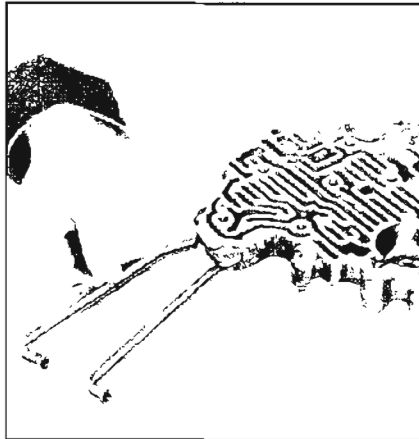

Figure 5-513
3. Remove the governor pipes from control valve assembly. See Figure 5-513.